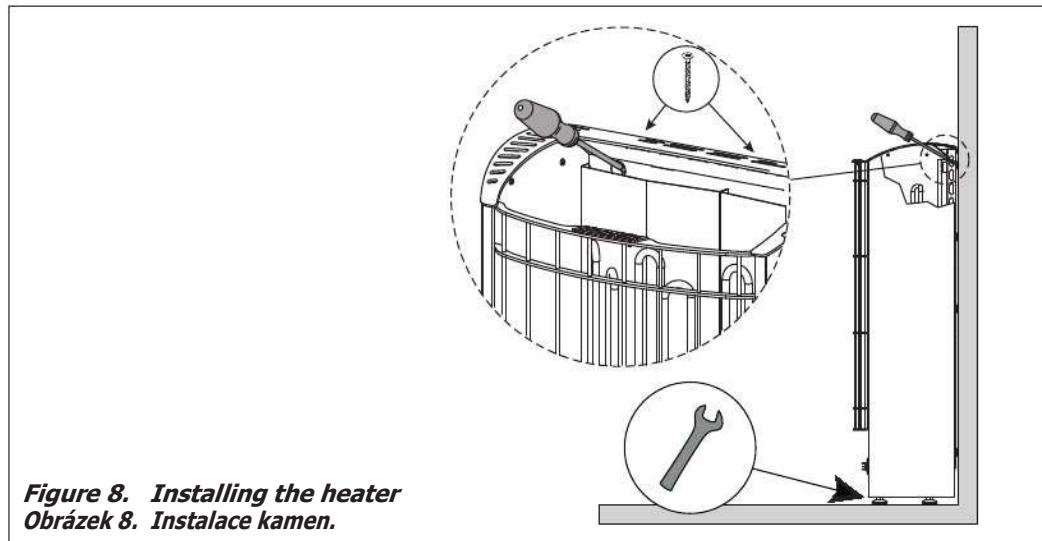

Figure 8. Installing the heater
3.3. Installing the Heater (figure 8)